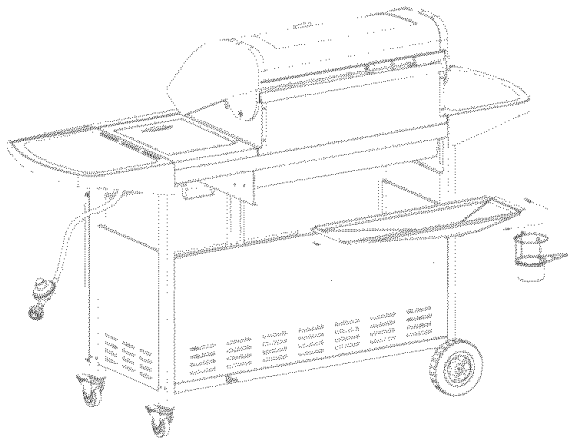

Figure 16
1. Insert grease tray assembly into opening on backside of grill. Make sure to slide tray onto tracks as illustrated. (Fig 16)